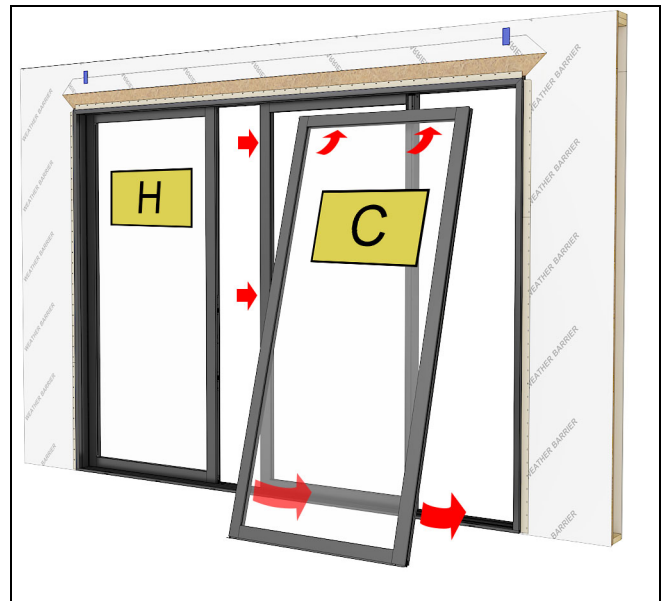
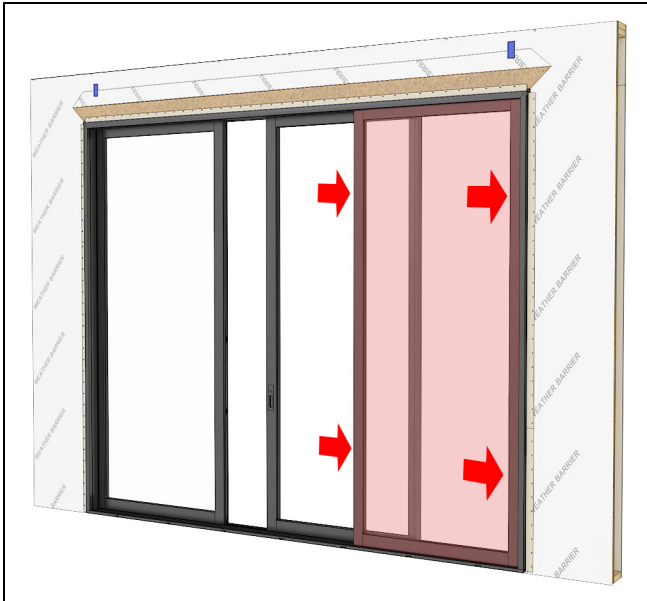

Figure 100
Figure 101
9. Install the second stationary panel (C) on the outside track, slide the panel tight against the jamb. See Figure 100 and Figure 101.